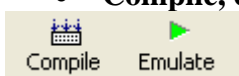

Figure 9
- Compile, correct errors if any, and then run (Emulate)... (Figure 9)